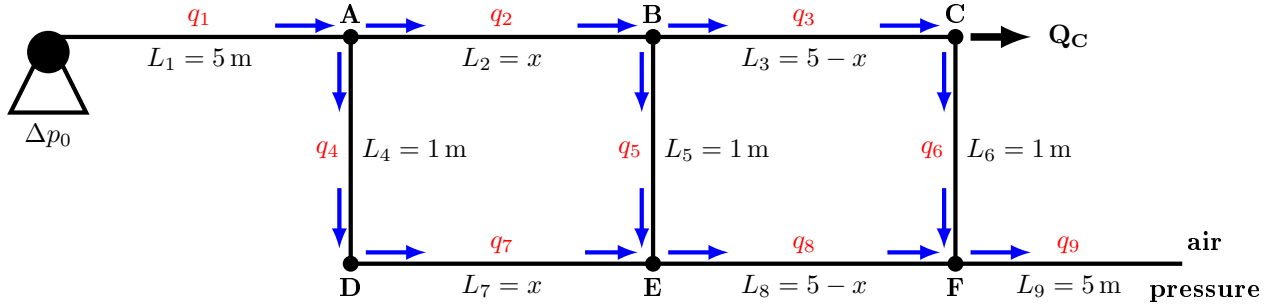

Figure 1: Schematic description of the pipe network. The blue arrows show the direction of water flow. The length of pipes 2 and 7 can be adjusted.
Note that the pipes do not all have the same length, see Figure 1. In both equations we can cancel out the constant $128\mu/(\pi D^4)$ and obtain **Equations 7 and 8**.
- Pipe lengths indicated on Figure 1, $x = 2.5$ m. Pipe diameter $D = 0.2$ m.